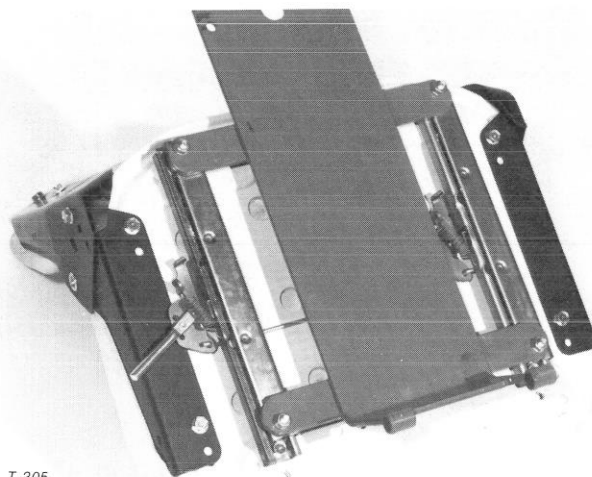

Figure 7
4. Slide threaded studs, at front and rear of seat slide channel, through holes in seat support. Secure channels in place with lockwashers and nuts (Fig. 7).